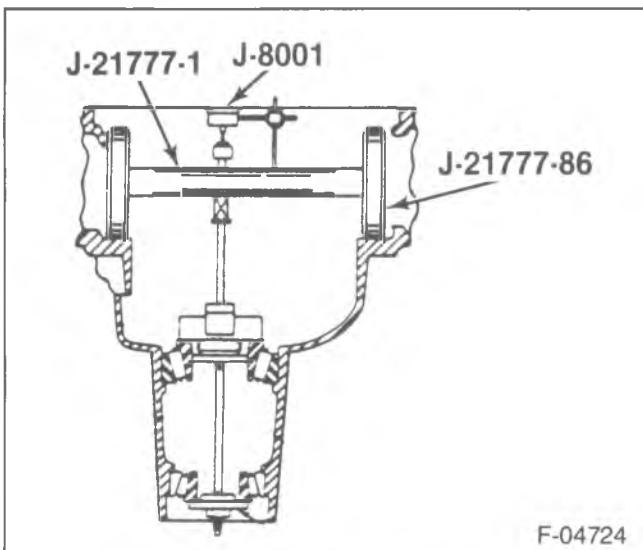

Figure 53—Pinion Gaging Tools
- 8. Assemble J-21777-86, J-21777-1 Arbor, and J-8001 to the differential bearing bore as shown in figure 53.